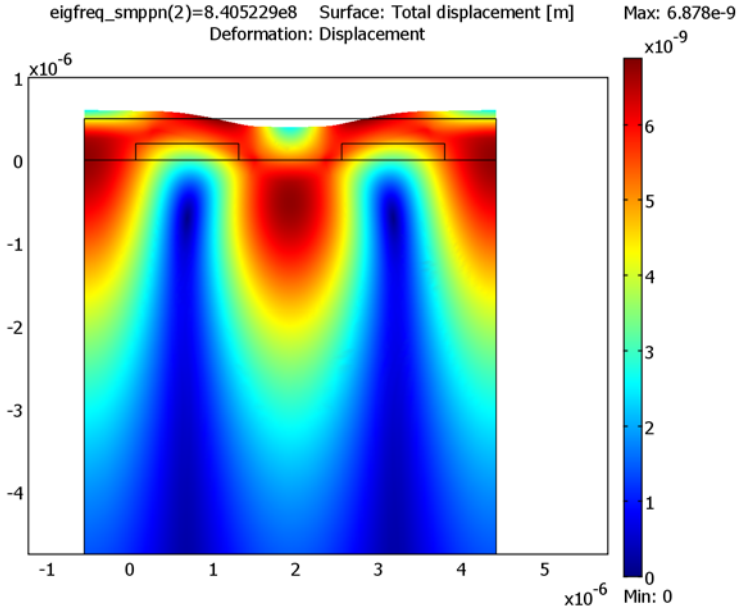

Figure 3-62: Deformations at resonance.
- 5** On the **General** page, select the 841 MHz eigenfrequency, then click **Apply** to see the deformations at resonance. This plot should look like Figure 3-62.